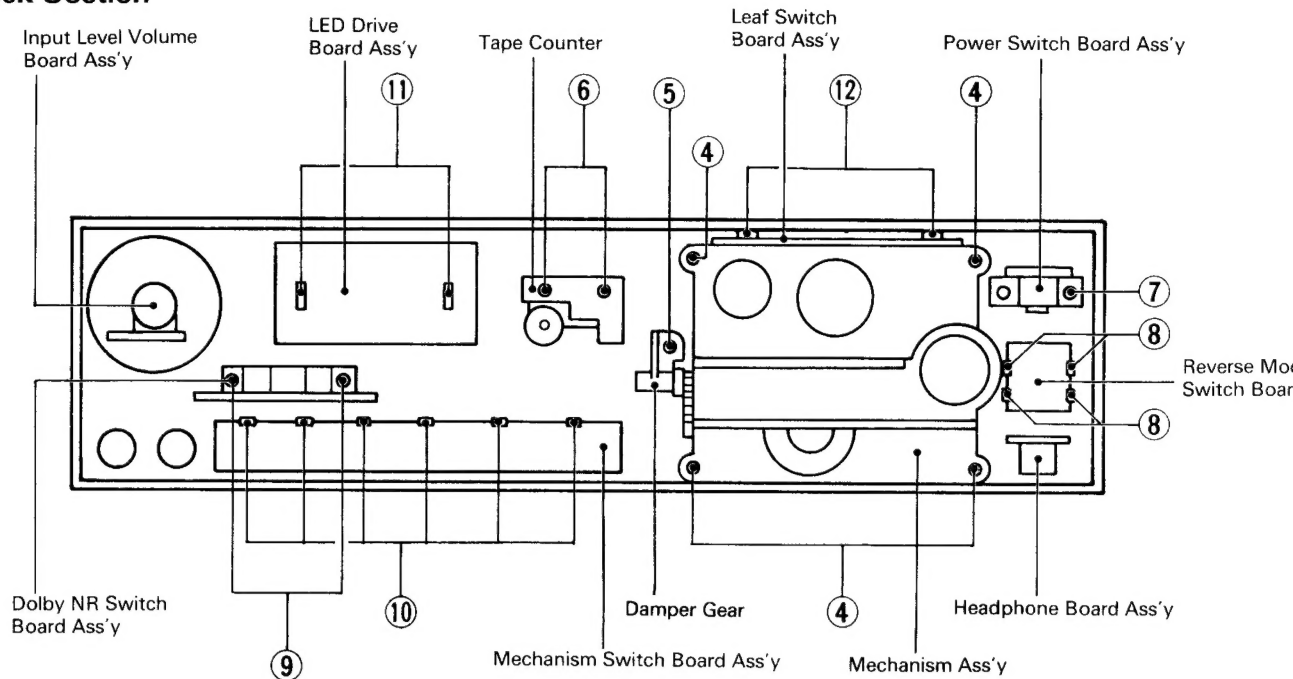

Fig. 6-3
2. Remove four screws (4) retaining the mechanism ass'y. (Fig. 6-3)
4. Remove two screws (12) retaining the leaf switch board ass'y to mechanism ass'y. (Fig. 6-3)
1. Remove one screw (5) from damper gear. (Fig. 6-3)
1. Remove two screws (6) retaining the tape counter. (Fig. 6-3)
1. Pull out the volume knob. (Fig. 6-3)
Remove four pawls (8) retaining reverse mode switch board ass'y. (Fig. 6-3)
1. Remove two screws (9) from the Dolby NR switch. (Fig. 6-3)
Remove six pawls (10) retaining the mechanism switch board ass'y. (Fig. 6-3)